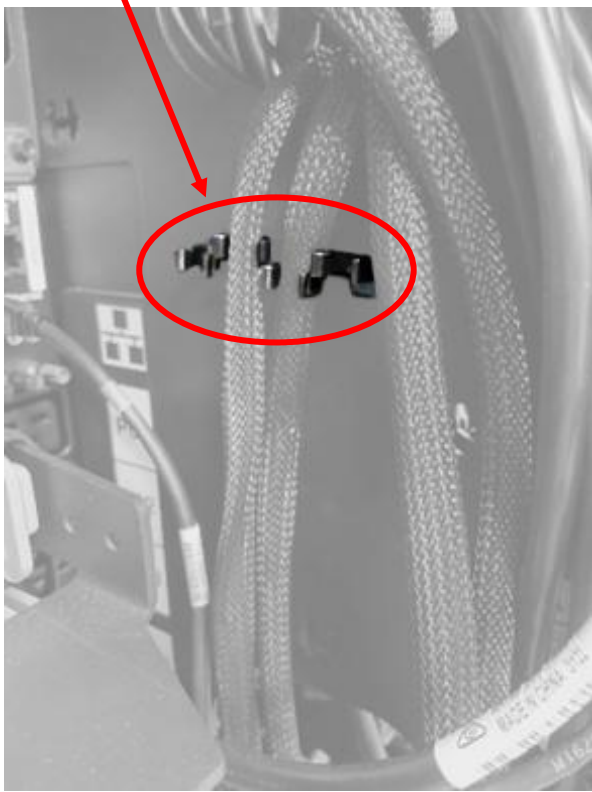

Figure 13: Frame Side Clip for PCIe+ Cables
- Frame Side Clip for PCIe+ (CDFP) Cables (Figure 13)